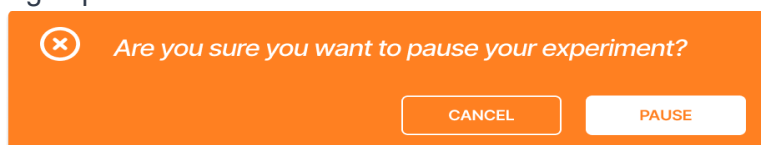

Figure 5.43: Experiment pause user confirmation prompt in the Alto Control Software.
- A confirmation popup will appear to either "Pause" or "Cancel". Click on "Cancel" if the user is ready to pause the experiment as shown in Figure 5.43. Click "Cancel" to return to the running experiment.